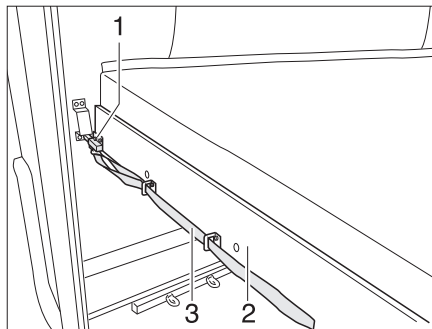

Fig. 168 Bunk bed (rear)
- Pull on the loop (Fig. 168,3) and release the latch (Fig. 168,1).
- Pull the slatted frame (Fig. 168,2) together with the mattress forward until it latches in place.